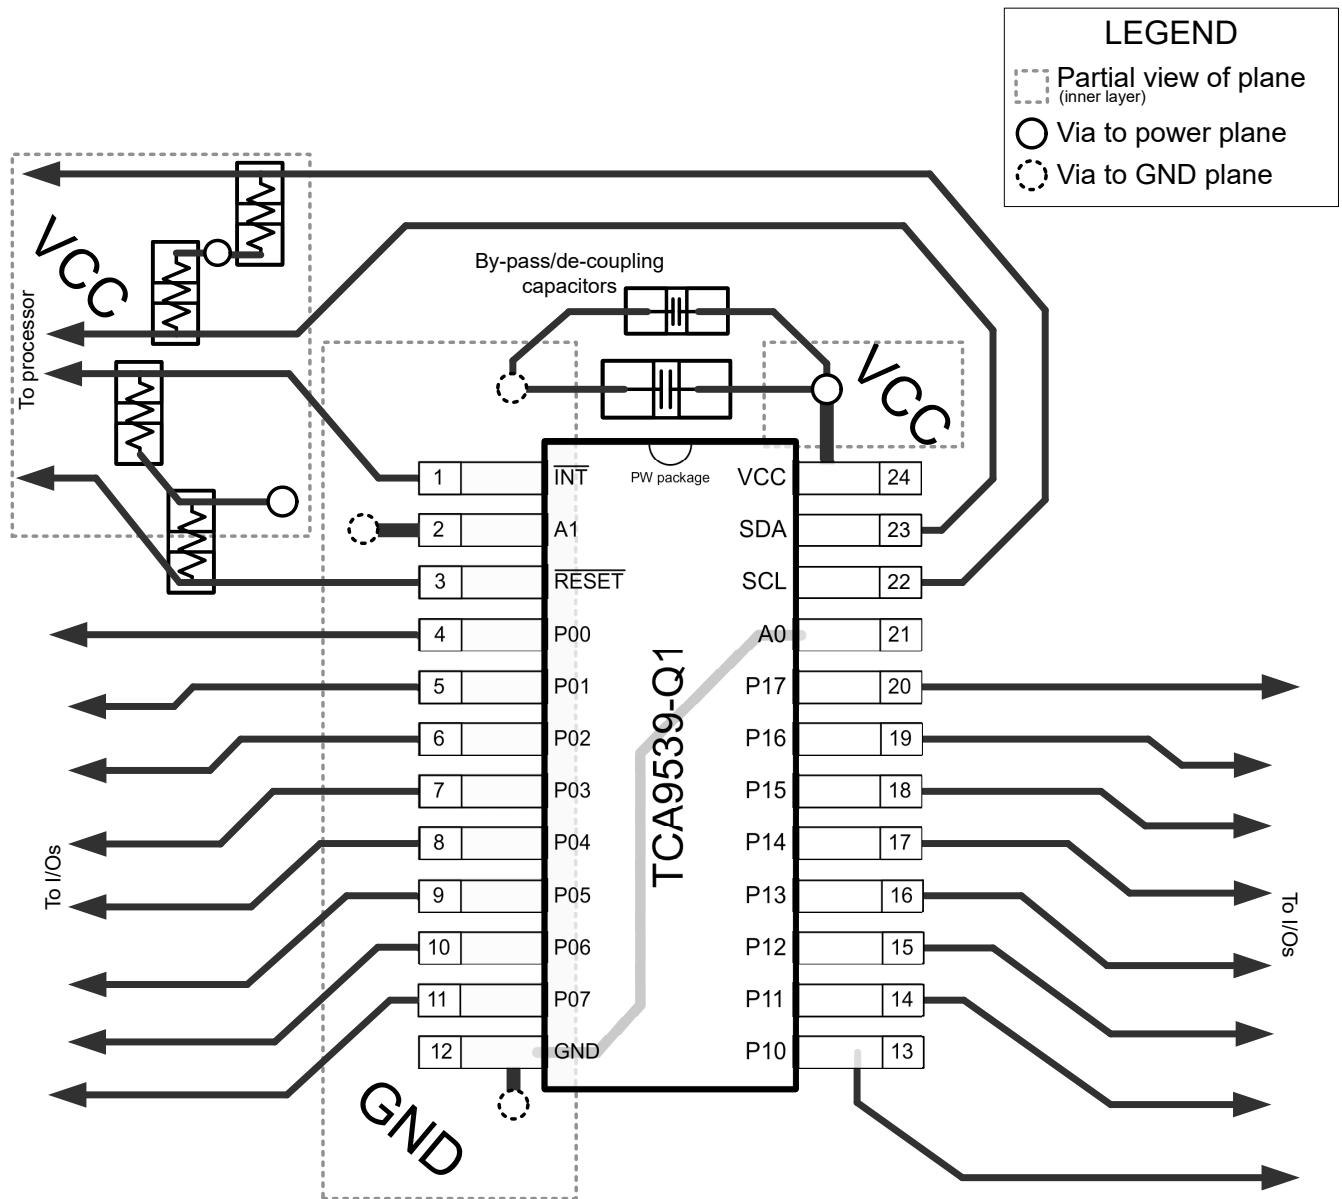

图 10-1. TCA9539-Q1 Layout
In all PCB layouts, it is a best practice to avoid right angles in signal traces, to fan out signal traces away from each other upon leaving the vicinity of an integrated circuit (IC), and to use thicker trace widths to carry higher amounts of current that commonly pass through power and ground traces. By-pass and de-coupling capacitors are commonly used to control the voltage on the VCC pin, using a larger capacitor to provide additional power in the event of a short power supply glitch and a smaller capacitor to filter out high-frequency ripple. These capacitors must be placed as close to the TCA9539-Q1 as possible. These best practices are shown in Figure 10-1.
For the layout example provided in Figure 10-1, it would be possible to fabricate a PCB with only 2 layers by using the top layer for signal routing and the bottom layer as a split plane for power (VCC) and ground (GND). However, a 4 layer board is preferable for boards with higher density signal routing. On a 4 layer PCB, it is common to route signals on the top and bottom layer, dedicate one internal layer to a ground plane, and dedicate the other internal layer to a power plane. In a board layout using planes or split planes for power and ground, vias are placed directly next to the surface mount component pad which must attach to VCC or GND and the via is connected electrically to the internal layer or the other side of the board. Vias are also used when a signal trace needs to be routed to the opposite side of the board, but this technique is not demonstrated in Figure 10-1.